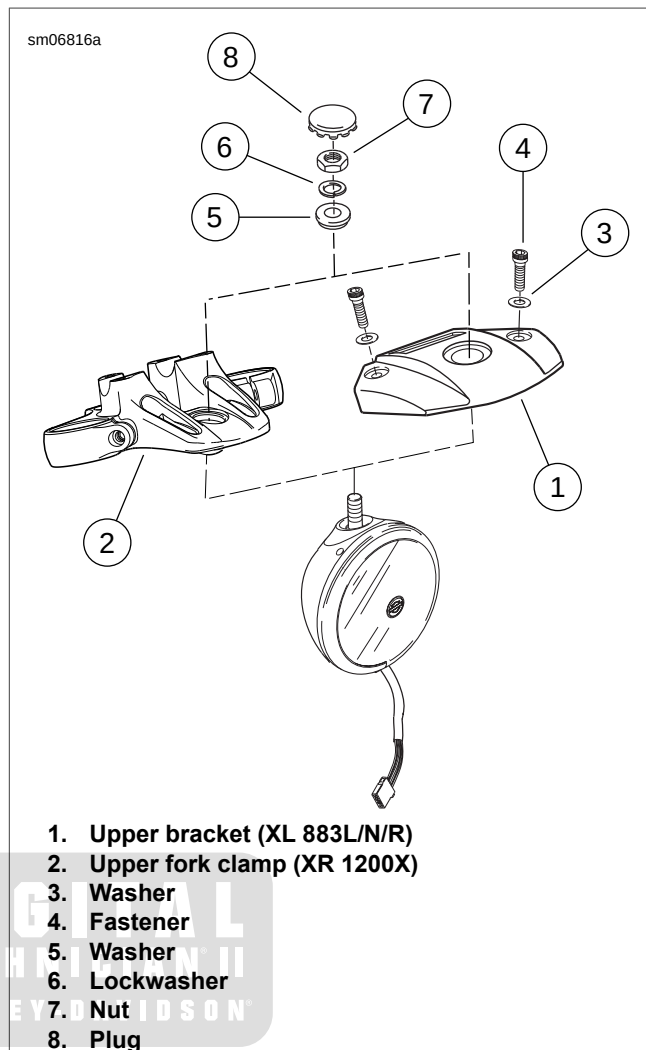

Figure 6-37. Headlamp Mount
- a. See Figure 6-37. Mount the upper bracket (1) to the upper fork clamp with a washer (3) and fastener (4). Tighten to 120-192 **in-lbs** (14-22 Nm).
- b. **XR 1200X**: The headlamp assembly installs directly into the upper fork clamp (2).
3. Install the headlamp assembly with a washer (5), lockwasher (6) and nut (7) and hand tighten.
6. Install the plug (8).